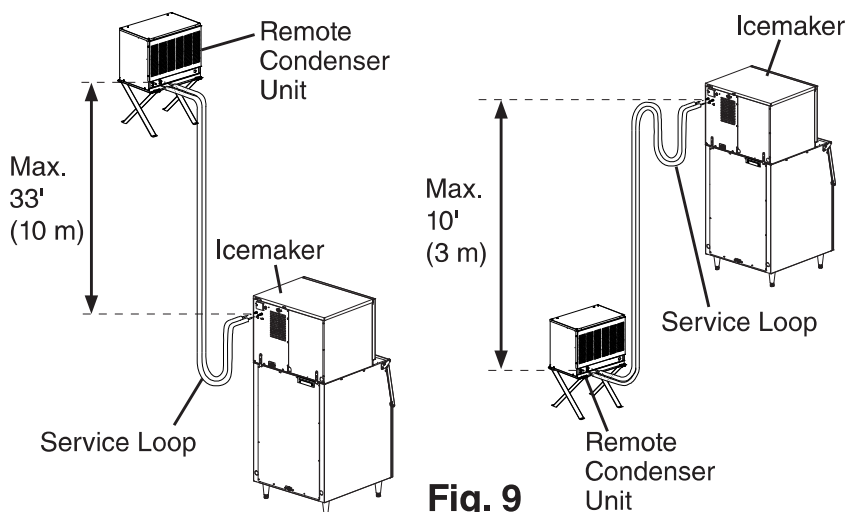

Fig. 9
- The maximum vertical distance between the remote condenser unit and the icemaker is 33 feet (10 m) above or 10 feet (3 m) below the icemaker. These distances are measured fitting to fitting. See Fig. 9.
- 1) Route the factory line set or appropriate size copper tubing. When field fabricating, insulate the copper tubes separately. Leave a service loop behind the icemaker to allow the icemaker to be pulled out for service. See Fig. 9.